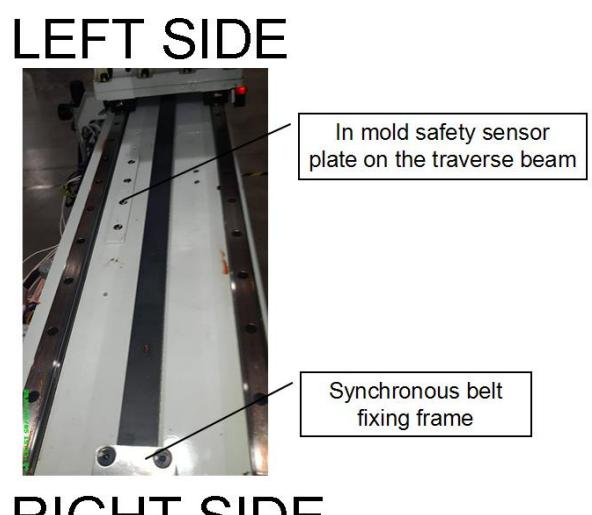

Fig.3-7: Outside IMM safety zone blocks after modifying
- 3) Move the in-mold safety sensor plate from the left side of traverse beam to the right side at the position of 180mm distance from the synchronous belt fixing frame as shown in Fig.3-7.